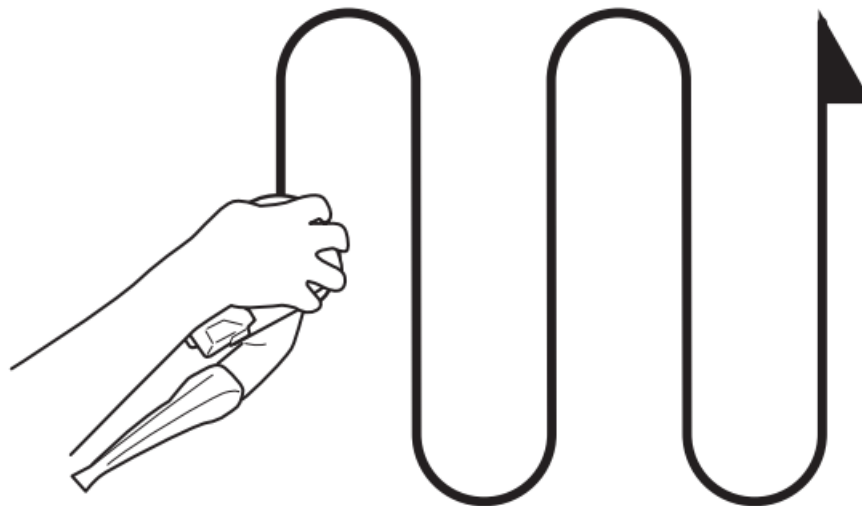

Fig. 11
2. How to move the random orbit sander Move the sander by either moving it up and down or by moving it in circles while gradually progressing in a sideways direction. (Figs. 11 and 12)